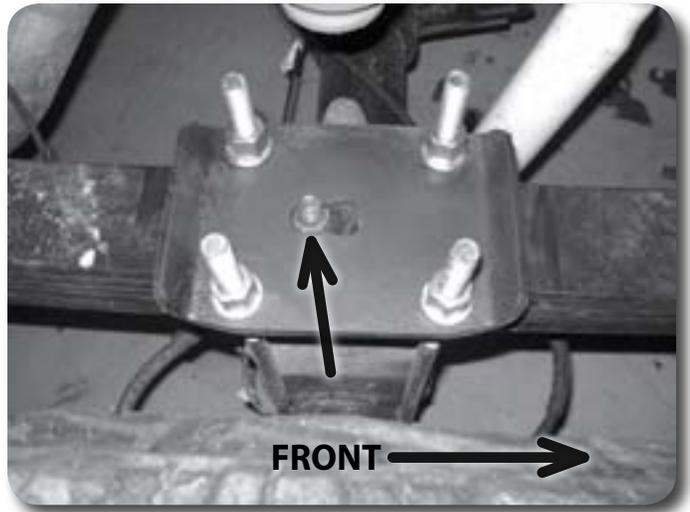

Figure 21
10. Raise the axle to engage the block spring alignment pins. Be certain the leaf center pin aligns with the REAR hole in the new lift block. Position the new u-bolt plate on the top of the spring over the center pin nut. Position the plate so the bolt pattern is shifted forward on the spring. **Figure 21** Fasten the entire assembly with the provided u-bolts, high nuts and washers. Snug but do not torque the u-bolts at this time.